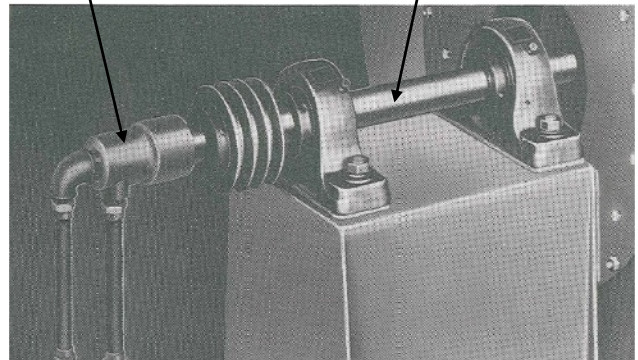

FIGURE 7. Water-cooled shafts with heat slingers.
- Water-cooled shafts with heat slingers, for temperatures above 1,850°F (above 1,010°C) (Figure 7).